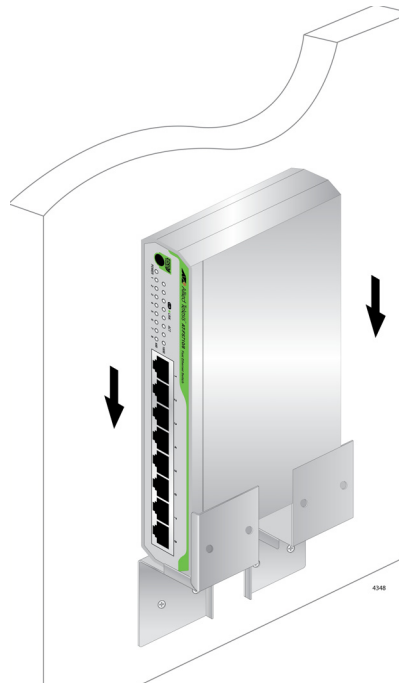

Figure 21. Placing the Switch into the Brackets
10. Slide the switch into the brackets on the wall as shown in Figure 21.